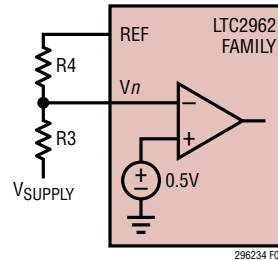

Figure 5. Setting the Negative Adjustable (–ADJ) Threshold
In the negative adjustable (–ADJ) mode, the comparator polarity is reversed as shown in Figure 5. The internal 0.5V reference is connected to the non-inverting comparator input. An external resistive divider connected between the negative voltage being sensed and the REF output is connected to the channel voltage input (V1 ~ V4). VREF provides the necessary level shift required to operate the comparator. Calculate the negative threshold voltage from:
**Table 4. Suggested 0.1% Resistor Values for –ADJ Inputs (Figure 5)**